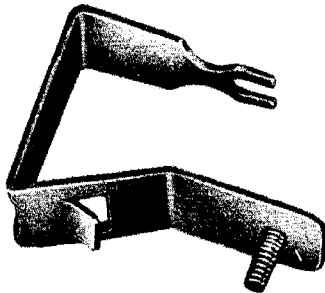

Fig. 1—72A Bracket
4.01 The 123A1A Protector preferably should be installed directly on an acceptable metallic cold water pipe by means of a 72A Bracket and a B Station Ground Wire Clamp. The 72A Bracket is illustrated in Fig. 1.